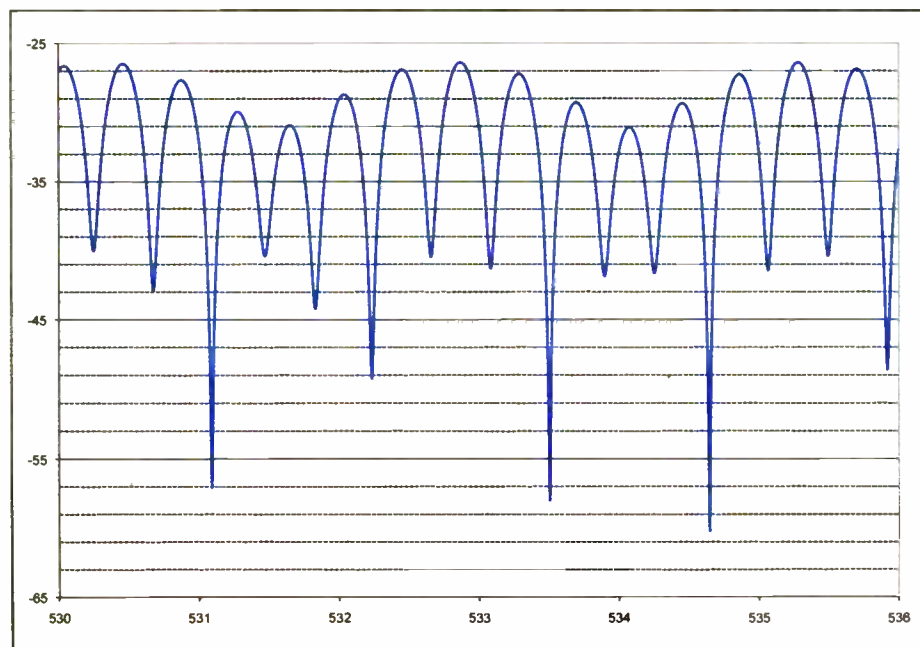

Fig. 5: Predicted Return Loss of the System
Similar measurement techniques may be applied to RF systems to pinpoint reflection problems. Though the plots become more complicated, the location of multiple reflection points can be deduced by noting the nulls and applying Equation (11). The minima with a small separation in frequency correspond to a reflection that is far away while those with a large separation are closer together. Minding the characteristics of the nulls and employing Equations (11) and (12), the locations of the multiple reflections may be computed. The return loss predicted by Equation (10) is shown in Fig. 5 for a three-component system: reflection 1: 0 feet, reflection 2: 194.7 feet, and reflection 3: 1220.8 feet.